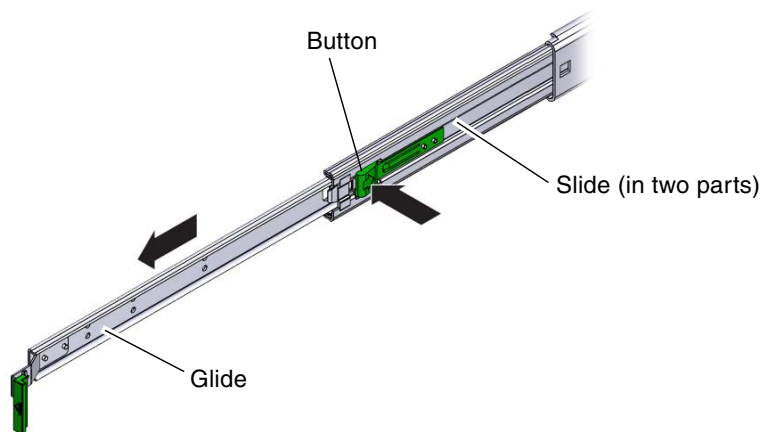

FIGURE 3-15 Removing Glides from the Slides
2. Press in the green button on each slide assembly and pull the right side and left side inner members (glides) completely out of the slides (FIGURE 3-15).